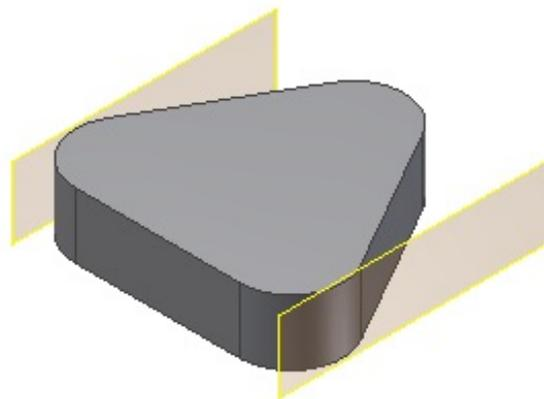

Figure 9-96 Work planes created
7. Similarly, create the work plane on right of the YZ plane and then turn off the visibility of the YZ plane by using the **Browser Bar**. The extruded feature after creating the work planes is shown in Figure 9-96. The work planes created are named as Work Plane 1 and Work Plane 2. These work planes are displayed in the **Browser Bar**.